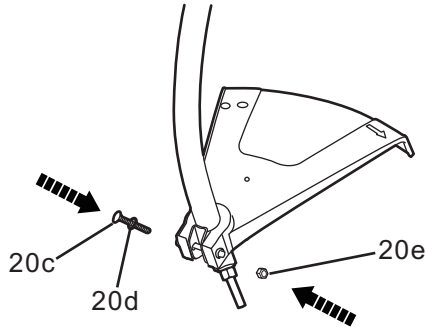

Fig. 3
- > Place the safety guard (20) with the bracket (20b) onto the support on the lower shaft (Fig. 3).
- > Secure the safety guard (20) with the bolt (20c), washer (20d) and nut (20e). Tighten the bolt properly.